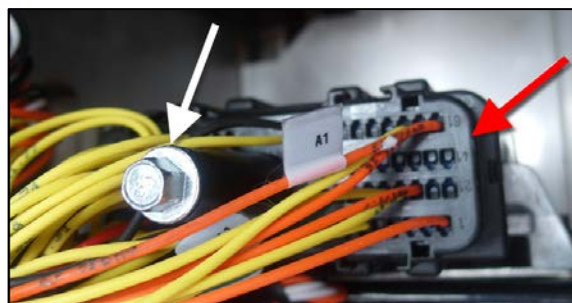

Figure 42
78. Reconnect the A1 module connector (Figure 42). Do not install the back shell at this time.
79. Fasten the screw (Figure 42).